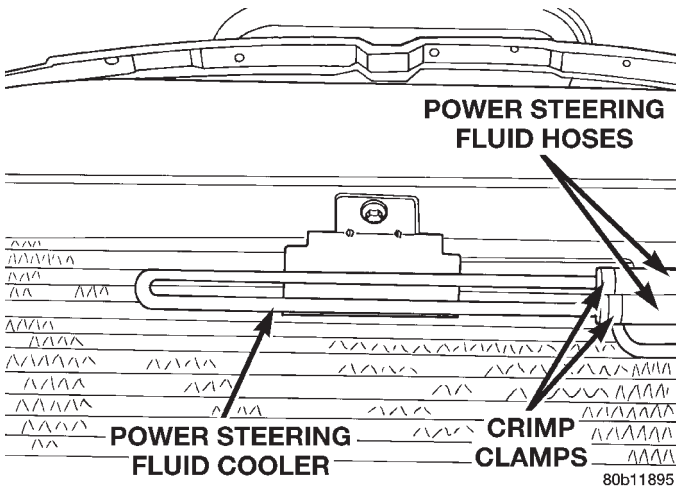

Fig. 23 Hose Clamps At Power Steering Fluid Cooler
(1) Raise vehicle using a frame contact type hoist or supported as required using jack stands. See Hoisting in the Lubrication And Maintenance group of this service manual for the required hoisting or jacking procedure to be used for this vehicle.
(2) Remove the front fascia and the grill as an assembly from the vehicle. Refer to Front Bumper/Fascia in Group 13 of this service manual for the proper procedure.
(3) Remove the crimp clamps (Fig. 23) from the power steering fluid hoses. Drain power steering fluid from the hoses and the power steering fluid cooler.
- (3) Install power steering fluid hoses on the power steering fluid cooler. Install **NEW** crimp style hose clamps (Fig. 23) on the power steering fluid hoses. **Be sure hose clamps are installed on hose past the upset bead on the power steering oil cooler.**
- (4) Install the front fascia and grill on the vehicle. Refer to Front Bumper/Fascia in Group 13 of this service manual for the proper procedure.
- (5) Lower the vehicle to a point where front tires are just off the ground.
- (6) Start the engine and let run for a few seconds. Then turn the engine off.
(7) Add fluid if necessary. Repeat the above procedure until the fluid level remains constant after running the engine.
(8) Start the engine. Slowly turn the steering wheel right and left, lightly contacting the wheel stops.
(9) Add power steering fluid if necessary.
(10) Stop the engine. Check the fluid level and refill as required.
(11) If the fluid is extremely foamy, allow the vehicle to stand a few minutes and repeat the above procedure.